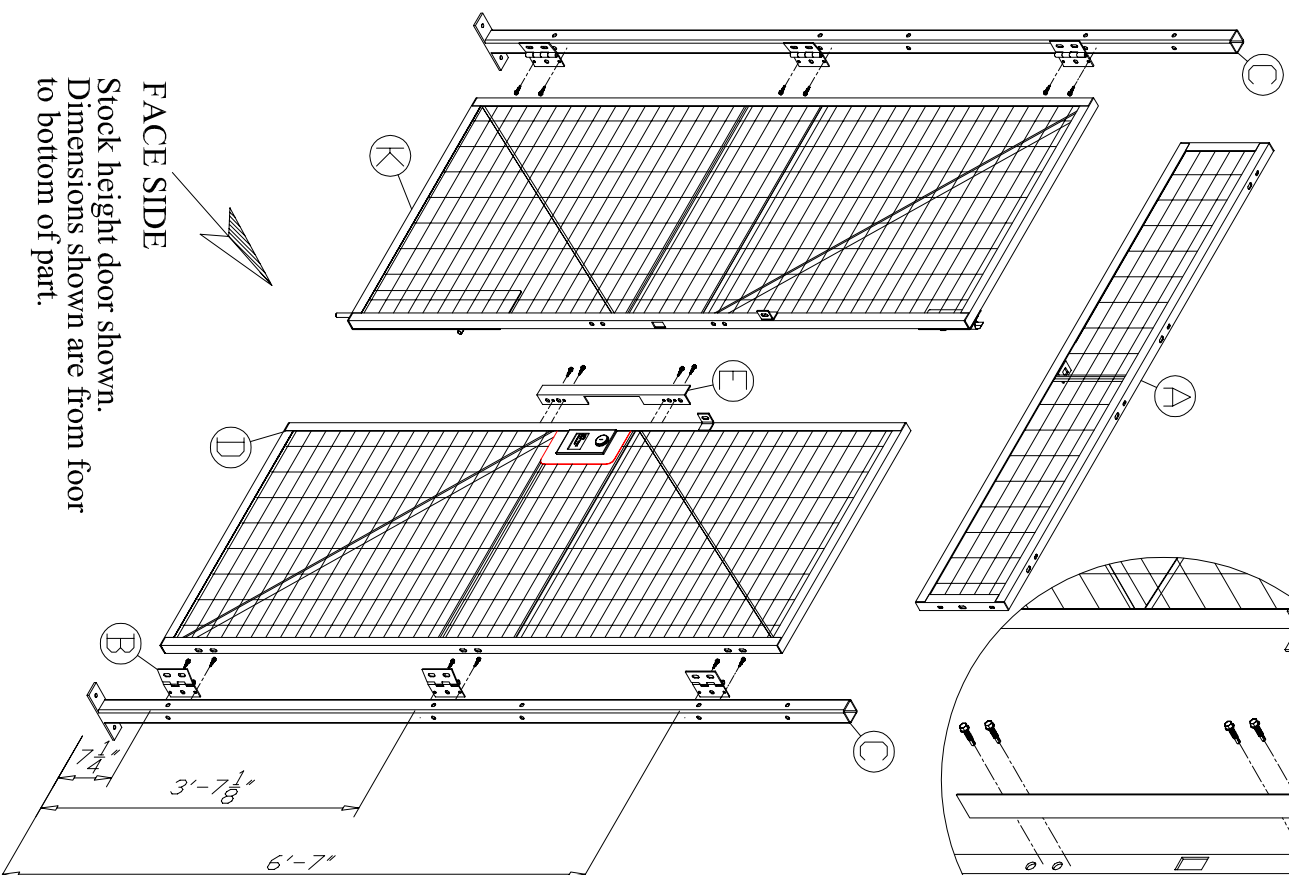
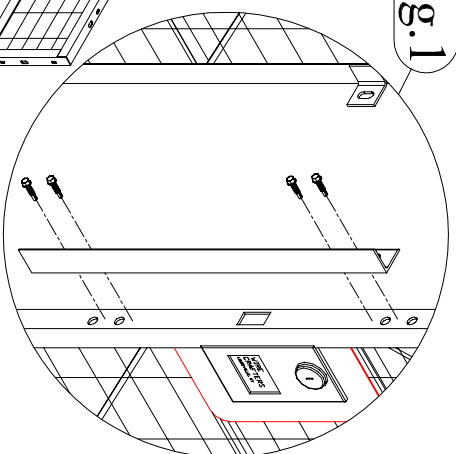

Fig. 1
Fig. 2
2. Attach hinges (B) to door posts (C). See Fig. 1 & 2 page 8 for swing out or page 7 for swing in.
3. Mount door panels (D) & (K) to hinges (B) with 3/8" x 1" bolts (set sweep sp at 3-1/4" for stk dr).
4. Attach pick plate (E) to door panel (D) Fig. 1 for swing out door, or (K) Fig. 2 for swing in door.